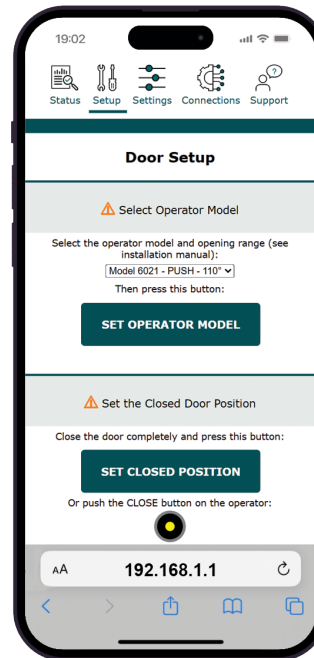

Figure 23
1. Use the drop down menu of Step 1 to select the operator model, hand, and opening range that matches the operator installation. (Figure 23)
1. Manually close the door and select “Set Closed Position” in Step 2. (Figure 23)